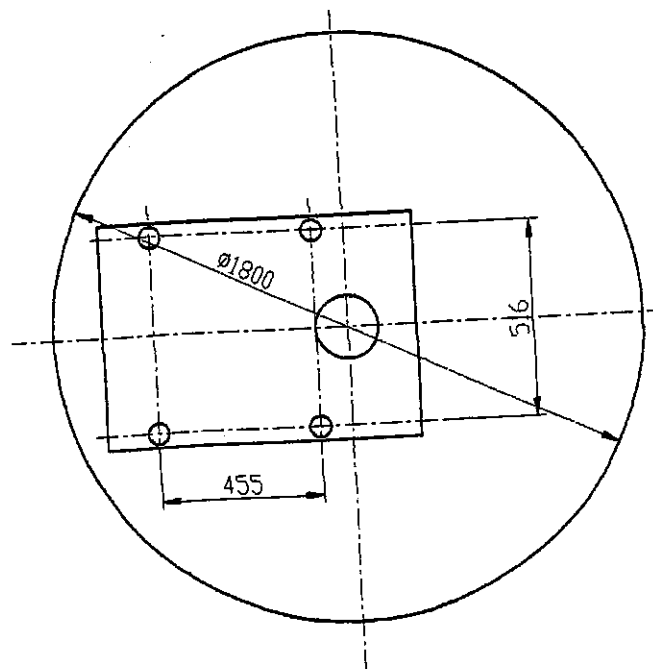

Fig. 2 Dimension of the foundation
- 4.2.1 Take the work table as Radius, go 360° around the column would be the max. area of the foundation. The diameter of the foundation is 1800mm. See Fig. 2. Customers can decide the Foundation area according to their own needs.